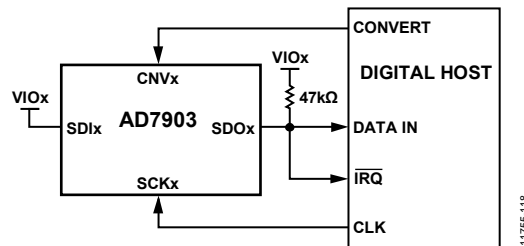
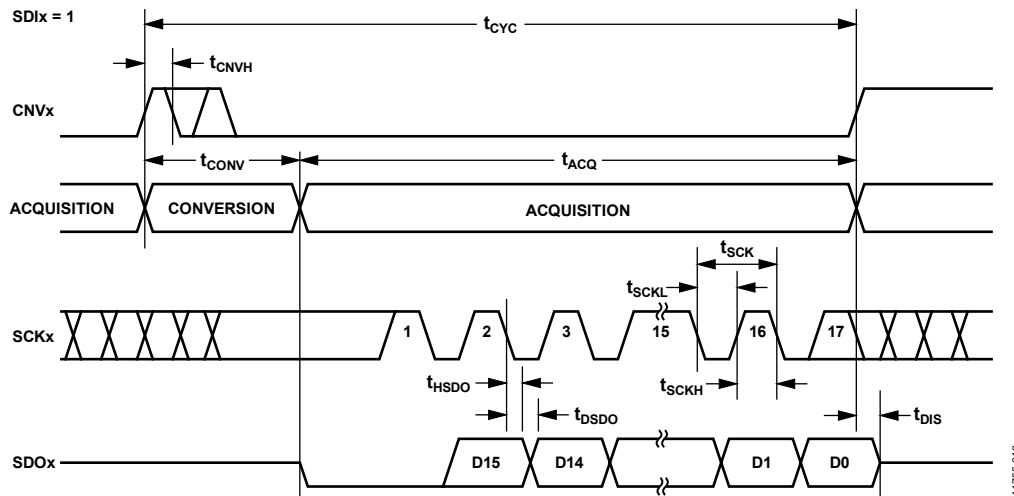
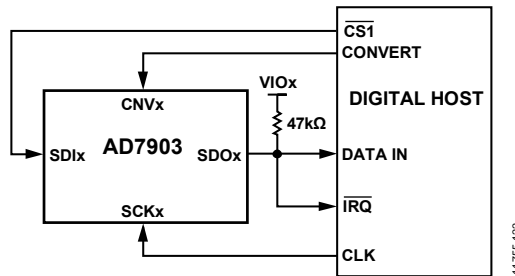
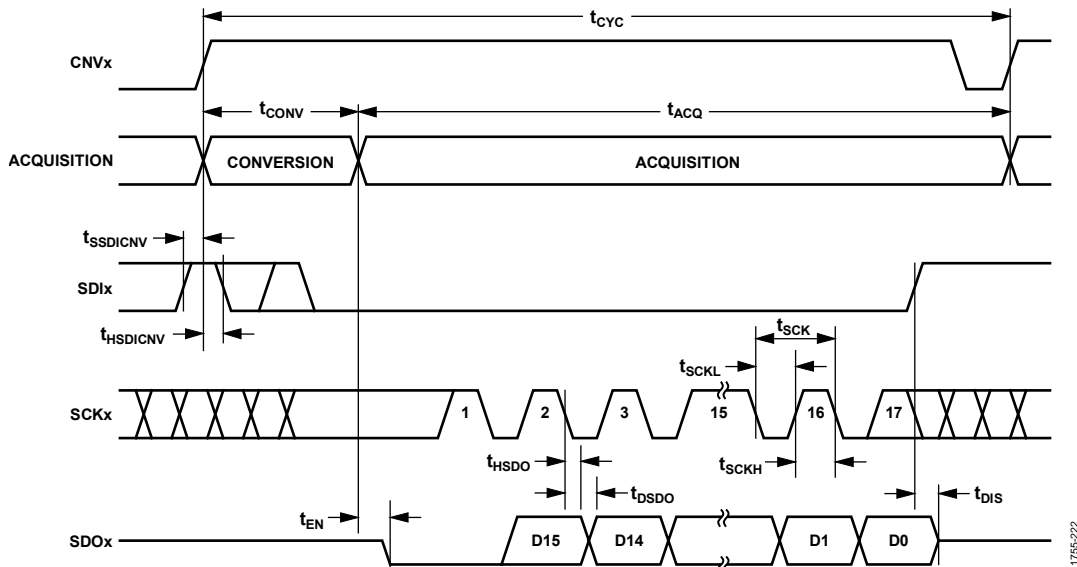

Figure 41. \overline{CS} Mode, 3-Wire Interface with Busy Indicator Connection Diagram ($SDIx$ High)
Figure 42. \overline{CS} Mode, 3-Wire Interface with Busy Indicator Serial Interface Timing ($SDIx$ High)
Figure 45. \overline{CS} Mode, 4-Wire Interface with Busy Indicator Connection Diagram
Figure 46. \overline{CS} Mode, 4-Wire Interface with Busy Indicator Serial Interface Timing
- In $\overline{\text{CS}}$ mode if CNVx or SDIx is low when the ADC conversion ends (see Figure 42 and Figure 46).
The connection diagram is shown in Figure 41, and the corresponding timing is shown in Figure 42.
The connection diagram is shown in Figure 45, and the corresponding timing is given in Figure 46.